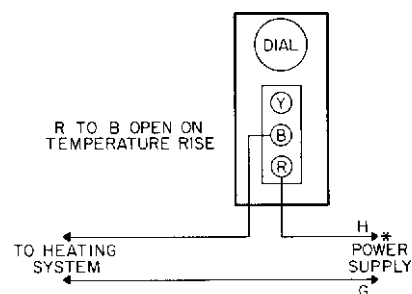

**Fig. 4 — All models have a screw type cutout stop. The stop screw must be loosened and moved to the stop setting desired. Tighten screw after setting is made.**
Knob adjustment or screwdriver slot is supplied on the range screw. Dial pointer is located on cutout stop bracket on knob and screwdriver adjustment models. Solid cover models are adjusted by removing cover and moving dial so set point is in line with dial pointer on the stop bracket. (See Fig. 4.)
A high temperature cutout stop is supplied on the thermostats. (See Fig. 4.) If cutout stop is required proceed as follows:
3. Loosen the cutout stop screw, slide the screw to the front of the thermostat against the plastic stop behind the dial and tighten the screw. (See Fig. 4.)